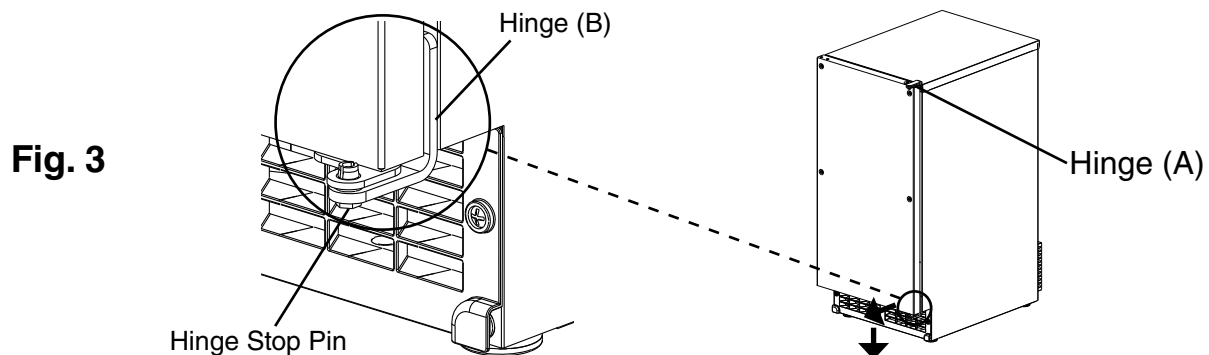

Fig. 3
- 5) While maintaining a hold on the door, remove the hinge stop pin from hinge (B). Pull out the bottom of the door slightly and gently remove the door from hinge (A). See Fig. 3. If you are leaving the door right-hinged, skip to step 7. If you would like to reverse the door swing, proceed to step 6.